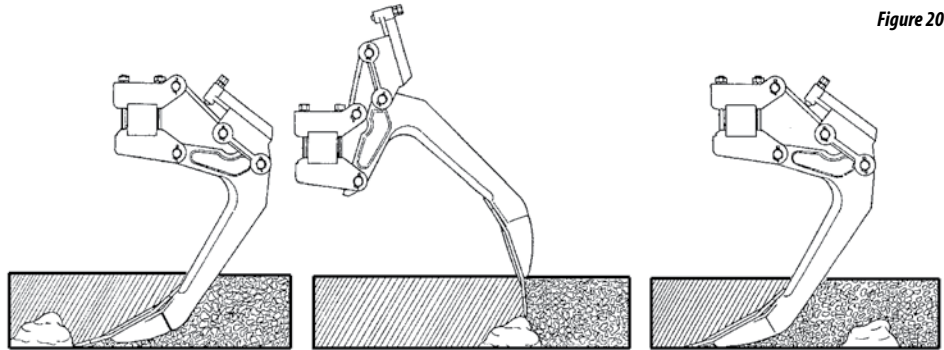

Figure 20
- 17 - The tynes are equipped with an exclusive system of automatic disarm when they meet obstacles, return to normal working position by simply lifting the implement as Figure 20.